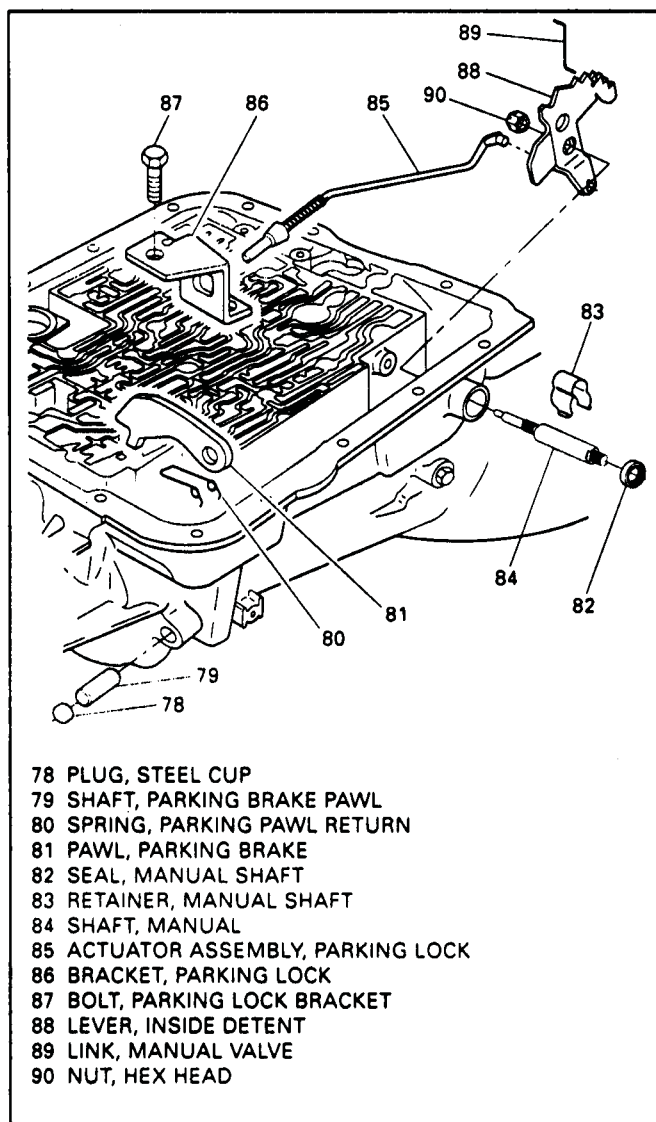

Figure 56
76. Refer to Figure 56.
14. Refer to Figure 56 for assembly.